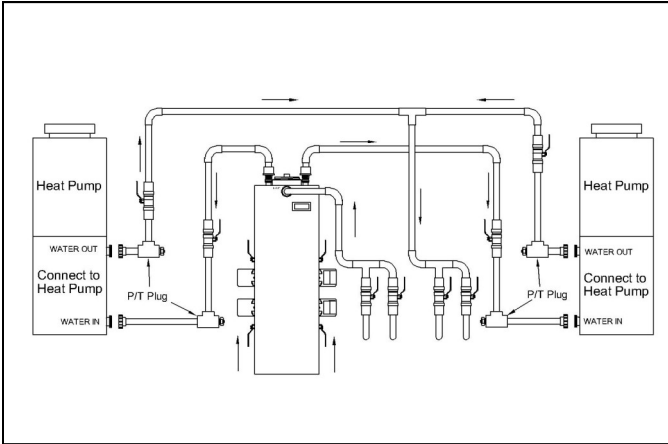

Fig. 3. Recommended Piping Schematic For Maximum Flexibility (Required With Internal Headers)
Fig. 3 Illustrates a recommended piping schematic that can be utilized when an internal header is used and separate purging of the heat pump and the ground loop is not required.
Piping is similar for either schematic with the exception of Fig. 3 showing all earth loops penetrating the mechanical area of the interior wall. Provide ball valves and P/T ports where indicated. Ball valves shall be the same as pipe size or greater. The flow center should be fastened to the wall with the bracket provided and all piping should be adequately supported. All piping shall be properly sized for the flow rate (GPM) required by the system. Reduce pipe size only at flow center and heat pump as necessary to make connections.
4. Close all loop header valves except one pair (**See Fig. 3**).